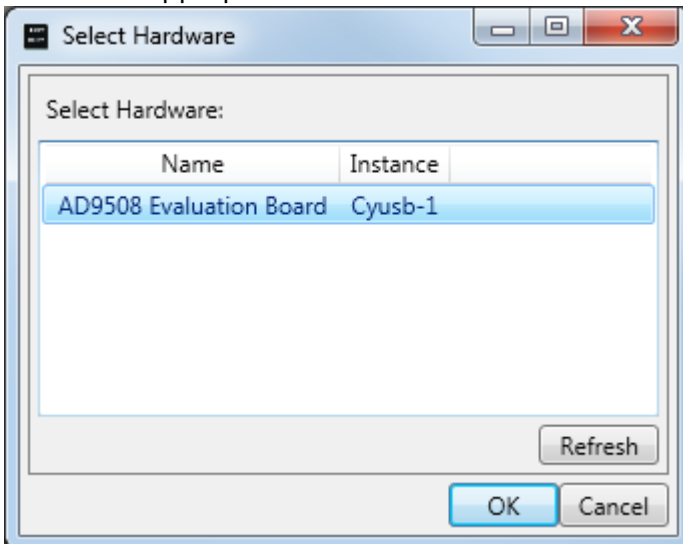

Figure 3. Select Hardware Window
3. If the evaluation board is found, proceed to the Evaluation Software Components section for details about running the software. If the evaluation board is not found, click **File > Select Hardware**. Select the appropriate AD9508 evaluation board connected and click **OK** (see Figure 3).